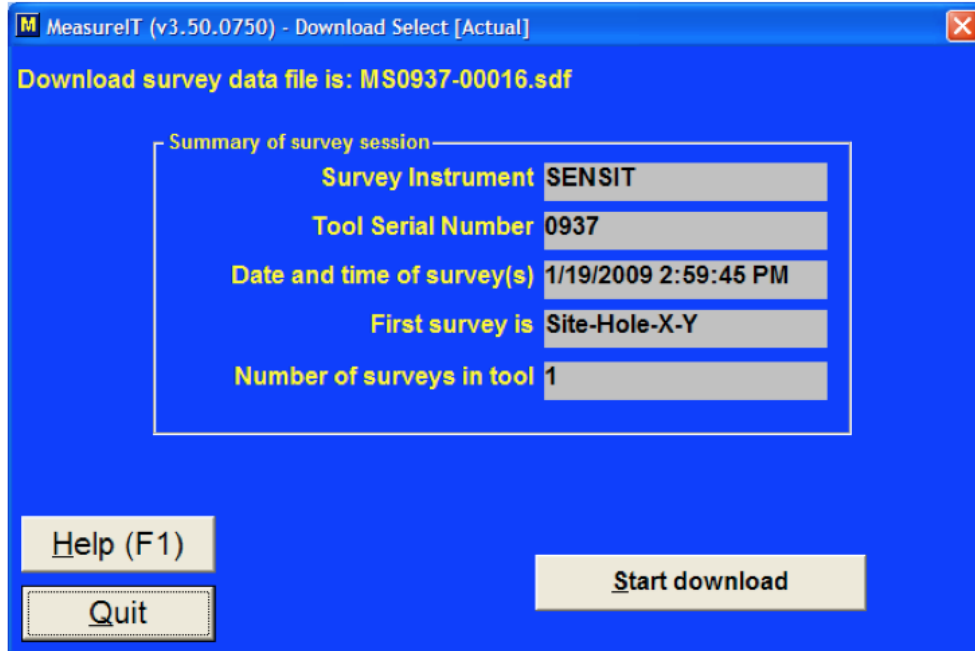

Figure 11 Start the download process
3. Click **Start Download** to begin the data download (**Figure 11**). You'll need to select your tool from the list as before. Click **Continue**.